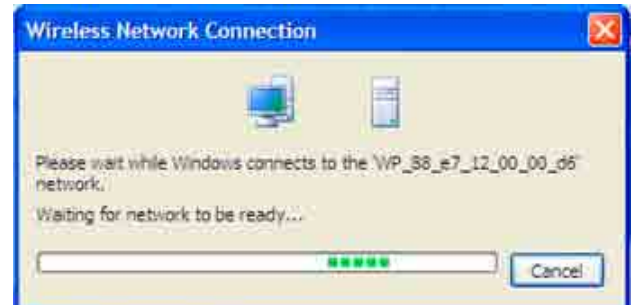

Figure 13 - Acquiring Network
- The (laptop, tablet, or smartphone) will then connect to the Smart Appliance. **NOTE:** A popup screen may momentarily indicate that it is attempting to acquire the network address (see Figure 13).